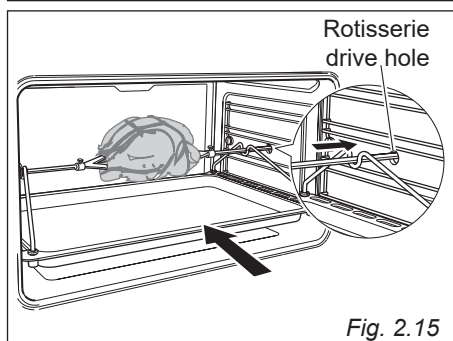

Fig. 2.15
4. Place the rotisserie in the oven (fig. 2.15).